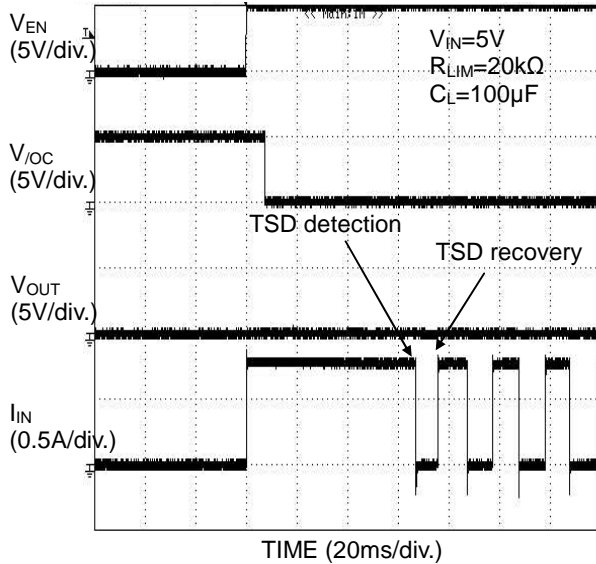

Figure 42. Over Current Response
(1). When the switch is turned on while the output is in short-circuit status, the switch gets in current limit status immediately. (See figure 42)